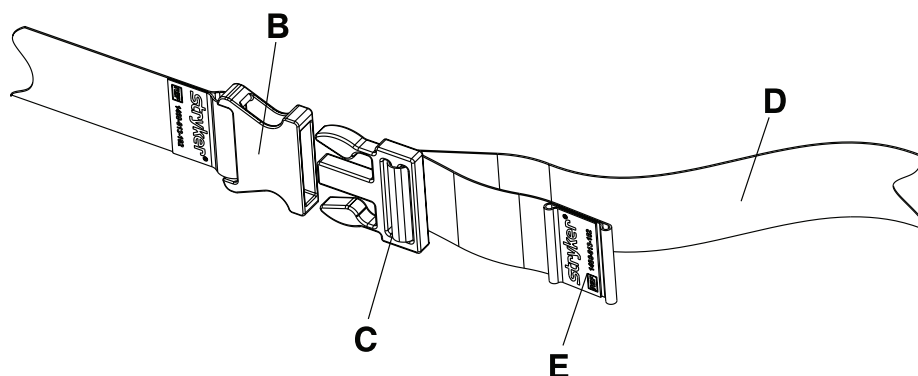

Figure 16: Close the lap belt
2. To close the lap belt (Figure 16 on page 25), push the buckle latch (C) into the buckle receiver (B) until you hear a click.